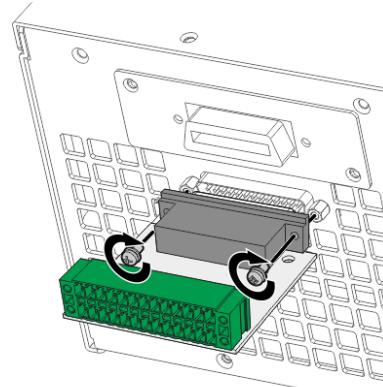

Figure 1-4 Analog Terminal Docking Board
- Figure 1-4 shows the docking board of Analog terminal on the rear panel. The installation is shown below.